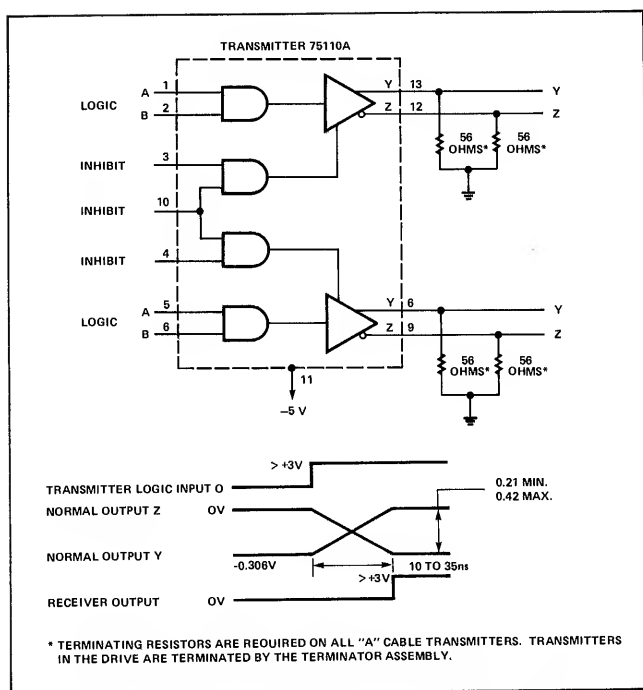

Figure 3-42. Control Line Transmitter
2. *Line Transmitter Characteristics* The SMD standard line transmitters (Figure 3-42) are compatible with the line receivers described below.
Control Signals: see Figure 3-42.
Control Signals: On the "A" Cable, the transmitters are connected to the I/O line so that the output, labeled Z (Figure 3-42) is connected to the odd numbered pin of the cable connector. This output in turn connects to the receiver pin labeled B (Figure 3-43) except for the Unit Selected line, which is connected in the opposite manner.
Control Signals: The input, labeled B (Figure 3-43) of the receiver is connected to the odd numbered pin of the cable connector, and thus connects to the transmitter pin labeled Z (Figure 3-42).